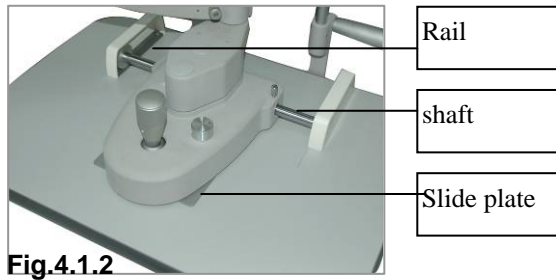

Fig.4.1.2
- 2) **Cleaning the sliding pad, rails and shaft:** Clean these parts with clean soft cloth regularly to ensure the stable movement of slit lamp. (Fig.4.1.2).